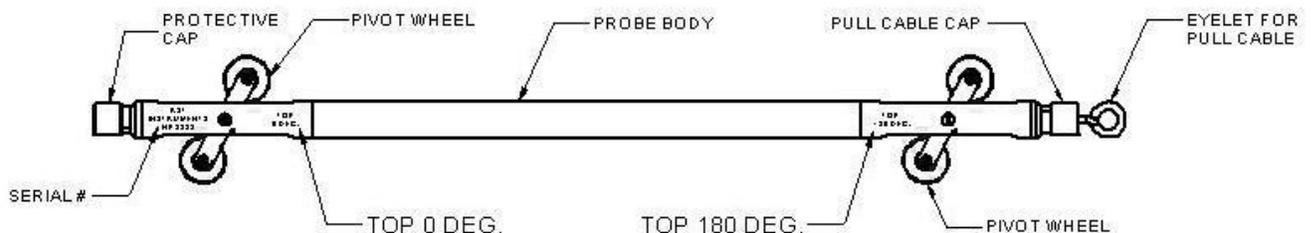

Figure 2 – MEMS Horizontal Inclinometer Probe Details
- Connect the MEMS Horizontal Probe to the Reel via the end with the serial number (Top 0 DEG., Figure 2).